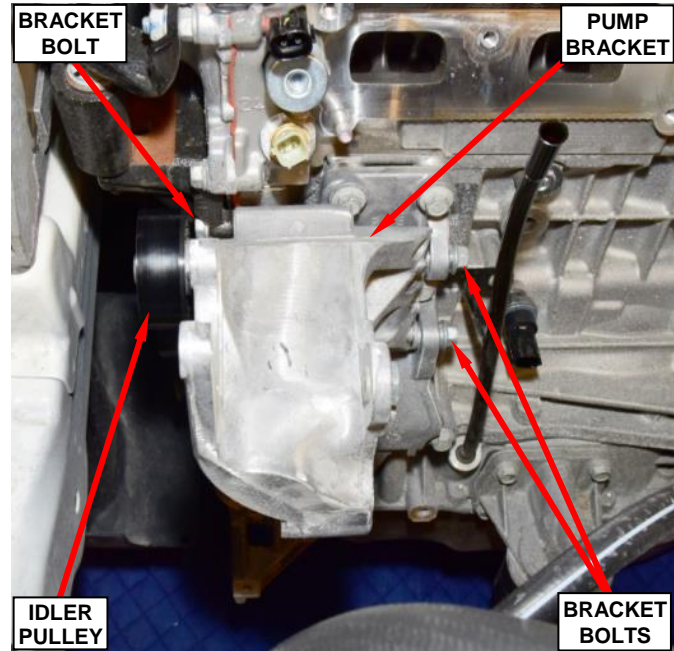

Figure 100 – Power Steering Bracket
93. Remove and save the upper accessory drive idler pulley (Figure 100).
94. Remove and save the three bolts from the power steering pump bracket (Figure 100).
95. Remove and save the power steering pump bracket (Figure 100).